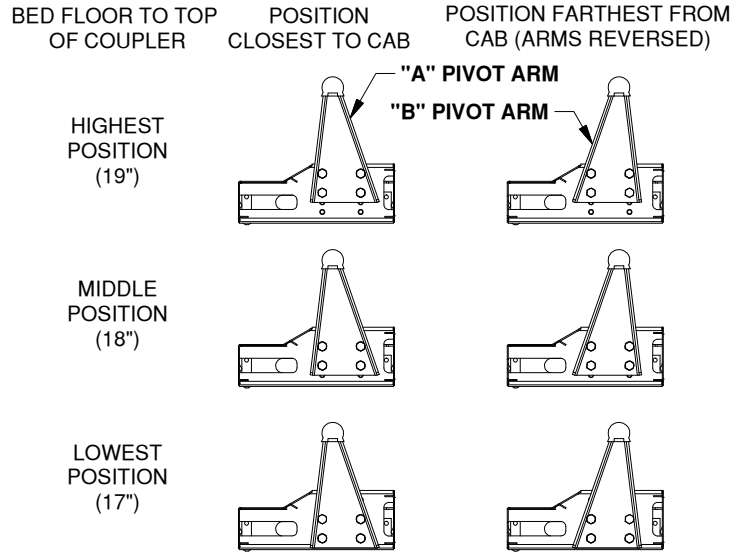

Figure C1: Cut away view of slider carriage arm positions.
1. Mount the pivot arms using one of the six different positions illustrated in Figures C1 & C2. These six positions allow flexibility in coupler height and distance from the cab. Choose a location so that your trailer will be as level as possible and have adequate turning clearance while in the towing position (with the slider in the forward position). **See warnings after step 2.**